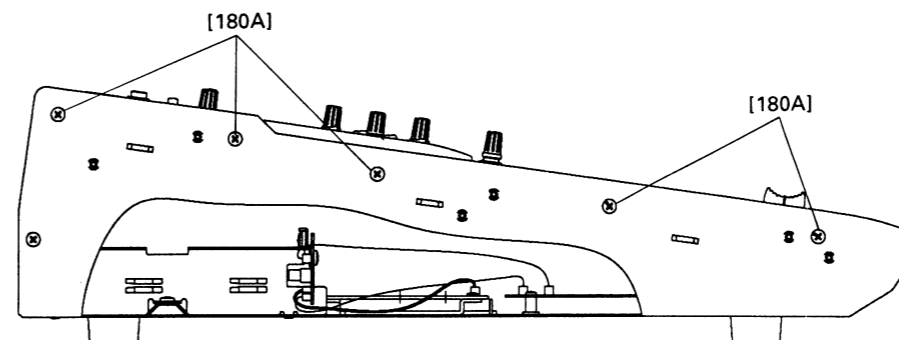

Fig. 1 (図1)
- 1-1 Remove the ten (10) screws marked [180A] and located on the right and left side pads. (Fig. 1)
- 1-1 右側面と左側面にある[180A]のネジ 10本を外します。(図1)